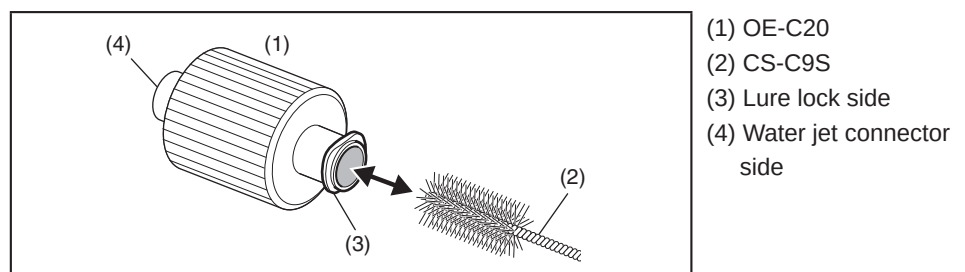
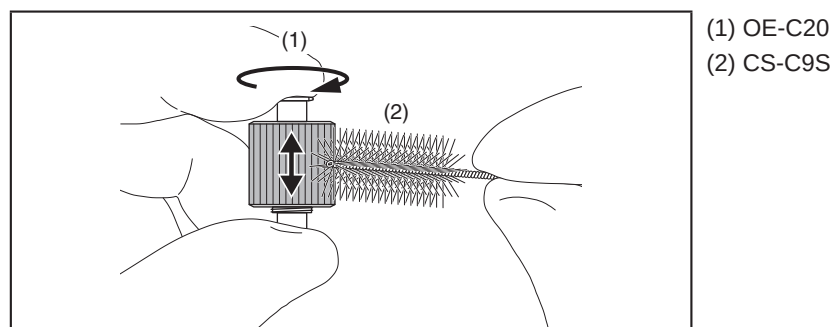
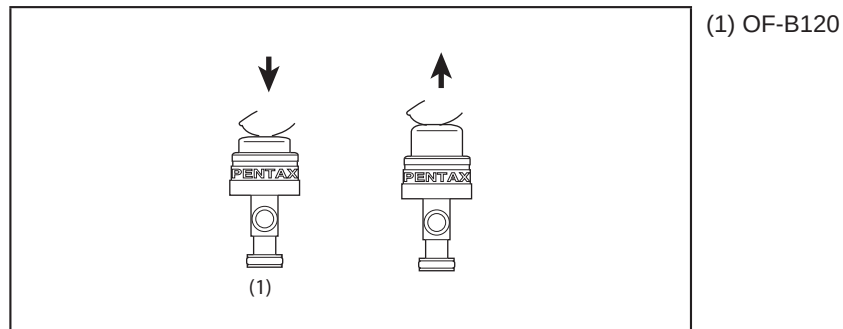
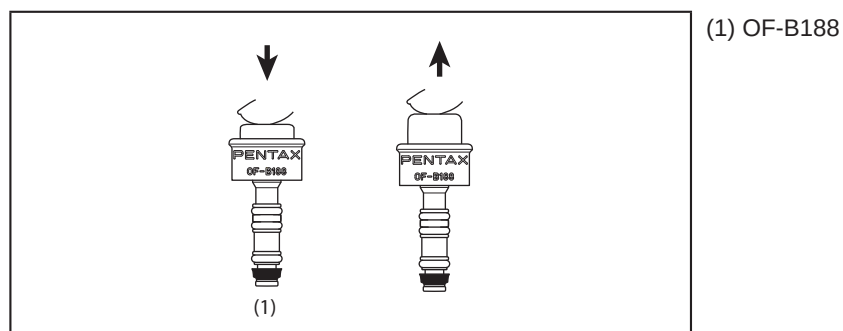

Figure 1.5.6
Figure 1.5.7
Figure 1.5.8
Figure 1.5.9
- 4) Manipulate the suction control valve (OF-B120) mechanism four times in the water. Using a syringe filled with water, flush the lumen of the valve with 5 mL of water. (see Figure 1.5.7, p109 and Figure 1.5.8, p110)
- 5) Manipulate the air/water feeding valve (OF-B188) mechanism four times in the water. Using a syringe filled with water, flush the lumen of the valve with 5 mL of water. (see Figure 1.5.7, p109 and Figure 1.5.9, p110)
- 14) Using a syringe filled with air, flush the lumen of suction control valve (OF-B120) with 5 mL air to purge residual water. (see Figure 1.5.8, p110)
- 15) Using a syringe filled with air, flush the lumen of air/water feeding valve (OF-B188) with 5 mL air to purge residual water. (see Figure 1.5.9, p110)
- 5) While fully immersed, manipulate the suction control valve (OF-B120) mechanism and air/water feeding valve (OF-B188) mechanism four times respectively. (see Figure 1.5.6, p109 and Figure 1.5.7, p109)
- 6) Using a syringe filled with disinfecting solution, inject 3 mL of disinfecting solution directly into each lumen of suction control valve (OF-B120) and air/water feeding valve (OF-B188), respectively. (see Figure 1.5.8, p110 and Figure 1.5.9, p110)